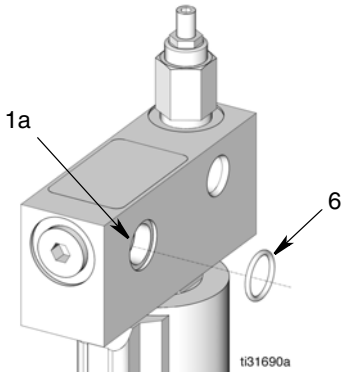

FIG. 10
- Grease o-ring (6) and install in block opening (1a) as shown in FIG. 10.